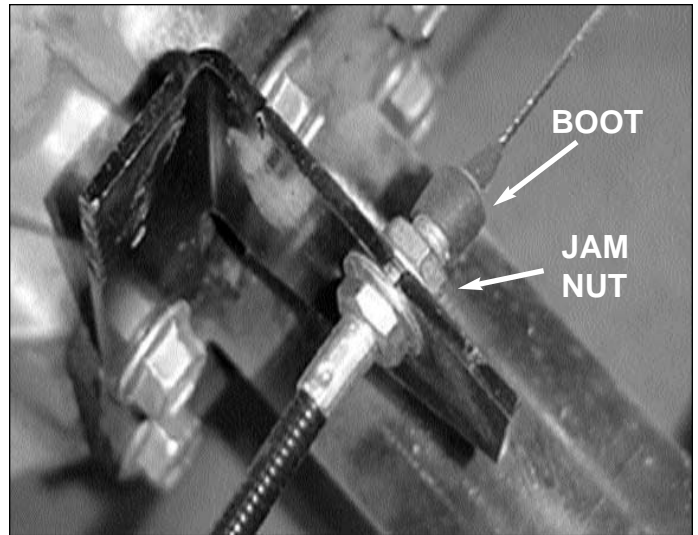
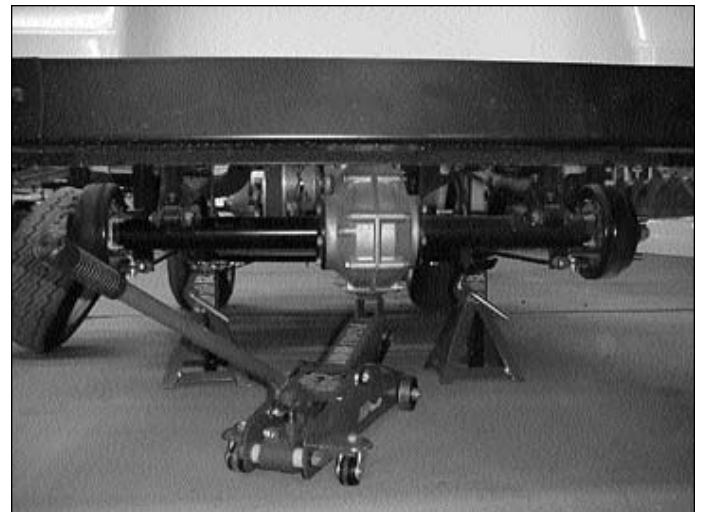

Figure 8 - Accelerator Bracket
Figure 14 - Floor Jack Under Transaxle
2. Slide dust boot off accelerator cable. Remove jam nut completely, and slide cable from slotted accelerator cable bracket. See Figure 8.
9. Position a floor jack under transaxle gearbox. See Figure 14. Be sure the lifting pad of jack engages gearbox so it will not slip off. Block ahead and behind front tires. Then, raise vehicle enough to position jack stands under rear fork tubes as shown. See Figure 8.